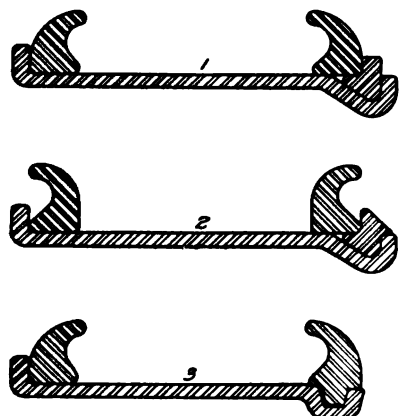
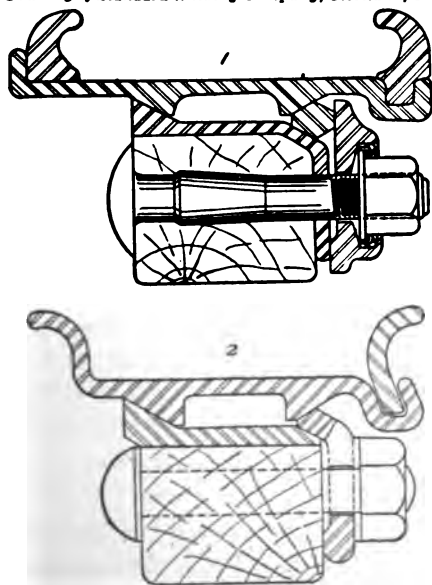

Fig. 72. Sections through Three Popular Q. D. Universal Rims
Fig. 91. Sections through Two Popular Forms of Demountable-Detachable Rims
ring and the shape of the locking ring. Both of these are called universal rims because they may be used interchangeably for straight-side and clincher types of tire. Other Q. D. Universals are shown in Fig. 72, although, in the opinion of tire men, the Universal form is slowly going out of use.
Q. D. Clincher Forms. To return to the plain clincher tire and the Q. D. rim, which allows of its ready removal, Fig. 74 shows four of the most prominent forms, these being indicated simply as flat sections of the rim, for the tire is the same in all cases. All these have the simple clincher edge on one side, with removable ring and locking device on the other. That at 1 has the same locking device shown at 2 in Fig. 72, the Z-shaped ring extending over the edge of the band. That at 2 is practically the same as 3 in Fig. 72. The one seen at 3
Comparison of Continuous Holding Ring Type with Local-Wedge Type. To return to demountable-detachable rims, these may and do include a number of those quick-detachable forms previously shown and described. In Fig. 91 a pair of typical forms is shown, that at 1 being fitted for a clincher tire, while that at 2 is for a straight side. Looking at the detachable part of the rim, number 1 will be recognized as that previously shown at 3, Fig. 72, where it was described as a universal rim, the inversion of the two rings converting it from a clincher to a straight side, or *vice versa*. Similarly, 2 will be recognized as the form of detachable shown at 3 in Fig. 75.